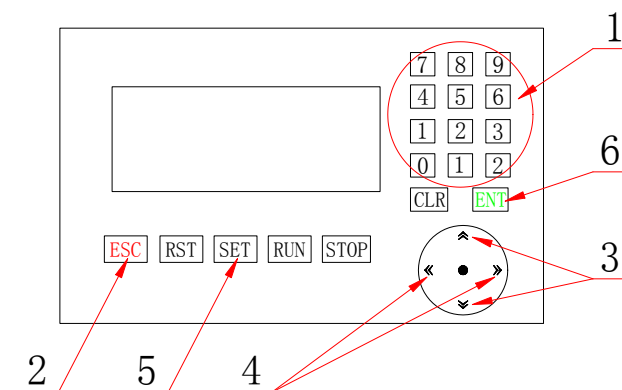

FIG 2-31
- Press the numeric key 2 in the main menu after the machine starts (FIG 2-31);
- Select functions with the keys ↑↓ (FIG 2-31);
- Activate or exit with the key ENT or ESC (FIG 2-31, POS 6/2).